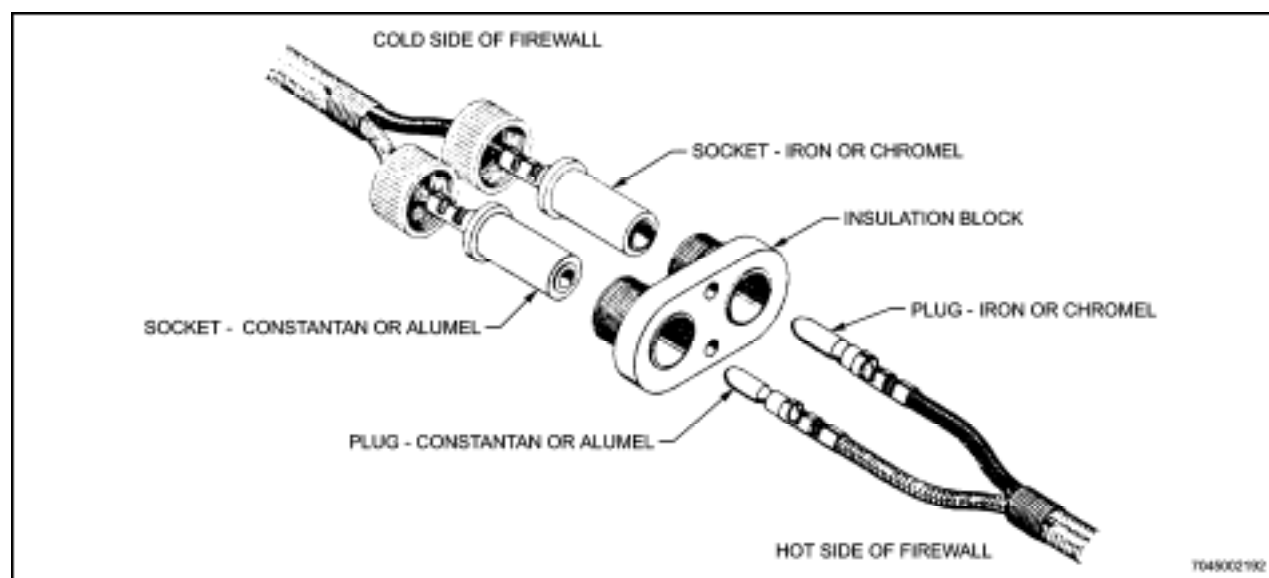

Figure 16-3 Thermocouple Connector Assembly (AN5537)
7. Thermocouple connector AN5537 (shown in Figure 16-3) is used to carry thermocouple connections through firewalls. This is a plug and jack connection, supplied with an insulating plate for attachment to the firewall. Plugs and jacks are supplied in chromel-alumel or iron-constantan combinations. The jack part of the connector is installed on the cool side of the firewall. The pin plug part of the connector is installed on the hot side of the firewall.